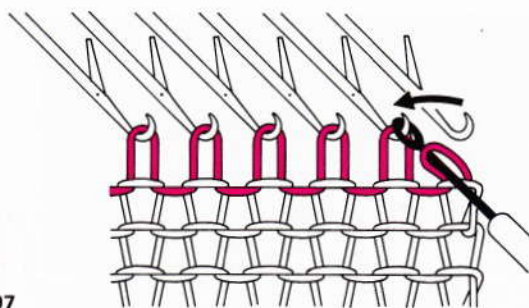

Fig. 97
- Transfer the stitch at the edge of the knitting onto the adjacent needle (see transfer of a stitch page 28) (fig. 97).